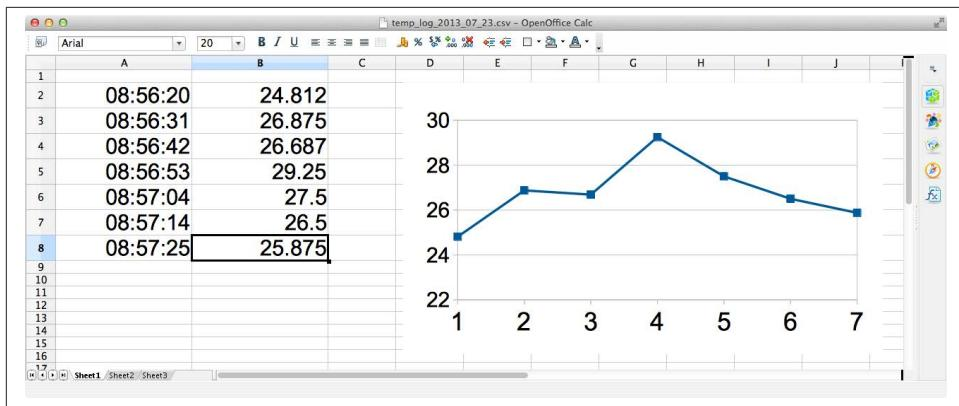

Figure 12-20. Charting data
**Figure 12-20** shows a set of data captured using this recipe, and the resulting file has been opened with the Gnumeric spreadsheet running on the Raspberry Pi.